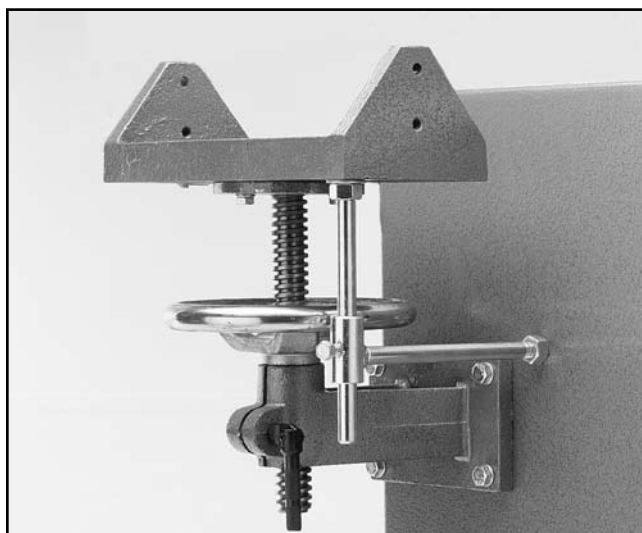

Figure 7. Horizontal/Vertical brace installed.
6. Insert the threaded end of the vertical brace through the hole in the bottom of the table bracket and re-install the Flat Washer and Hex Nut back onto the shaft. **Figure 7.**